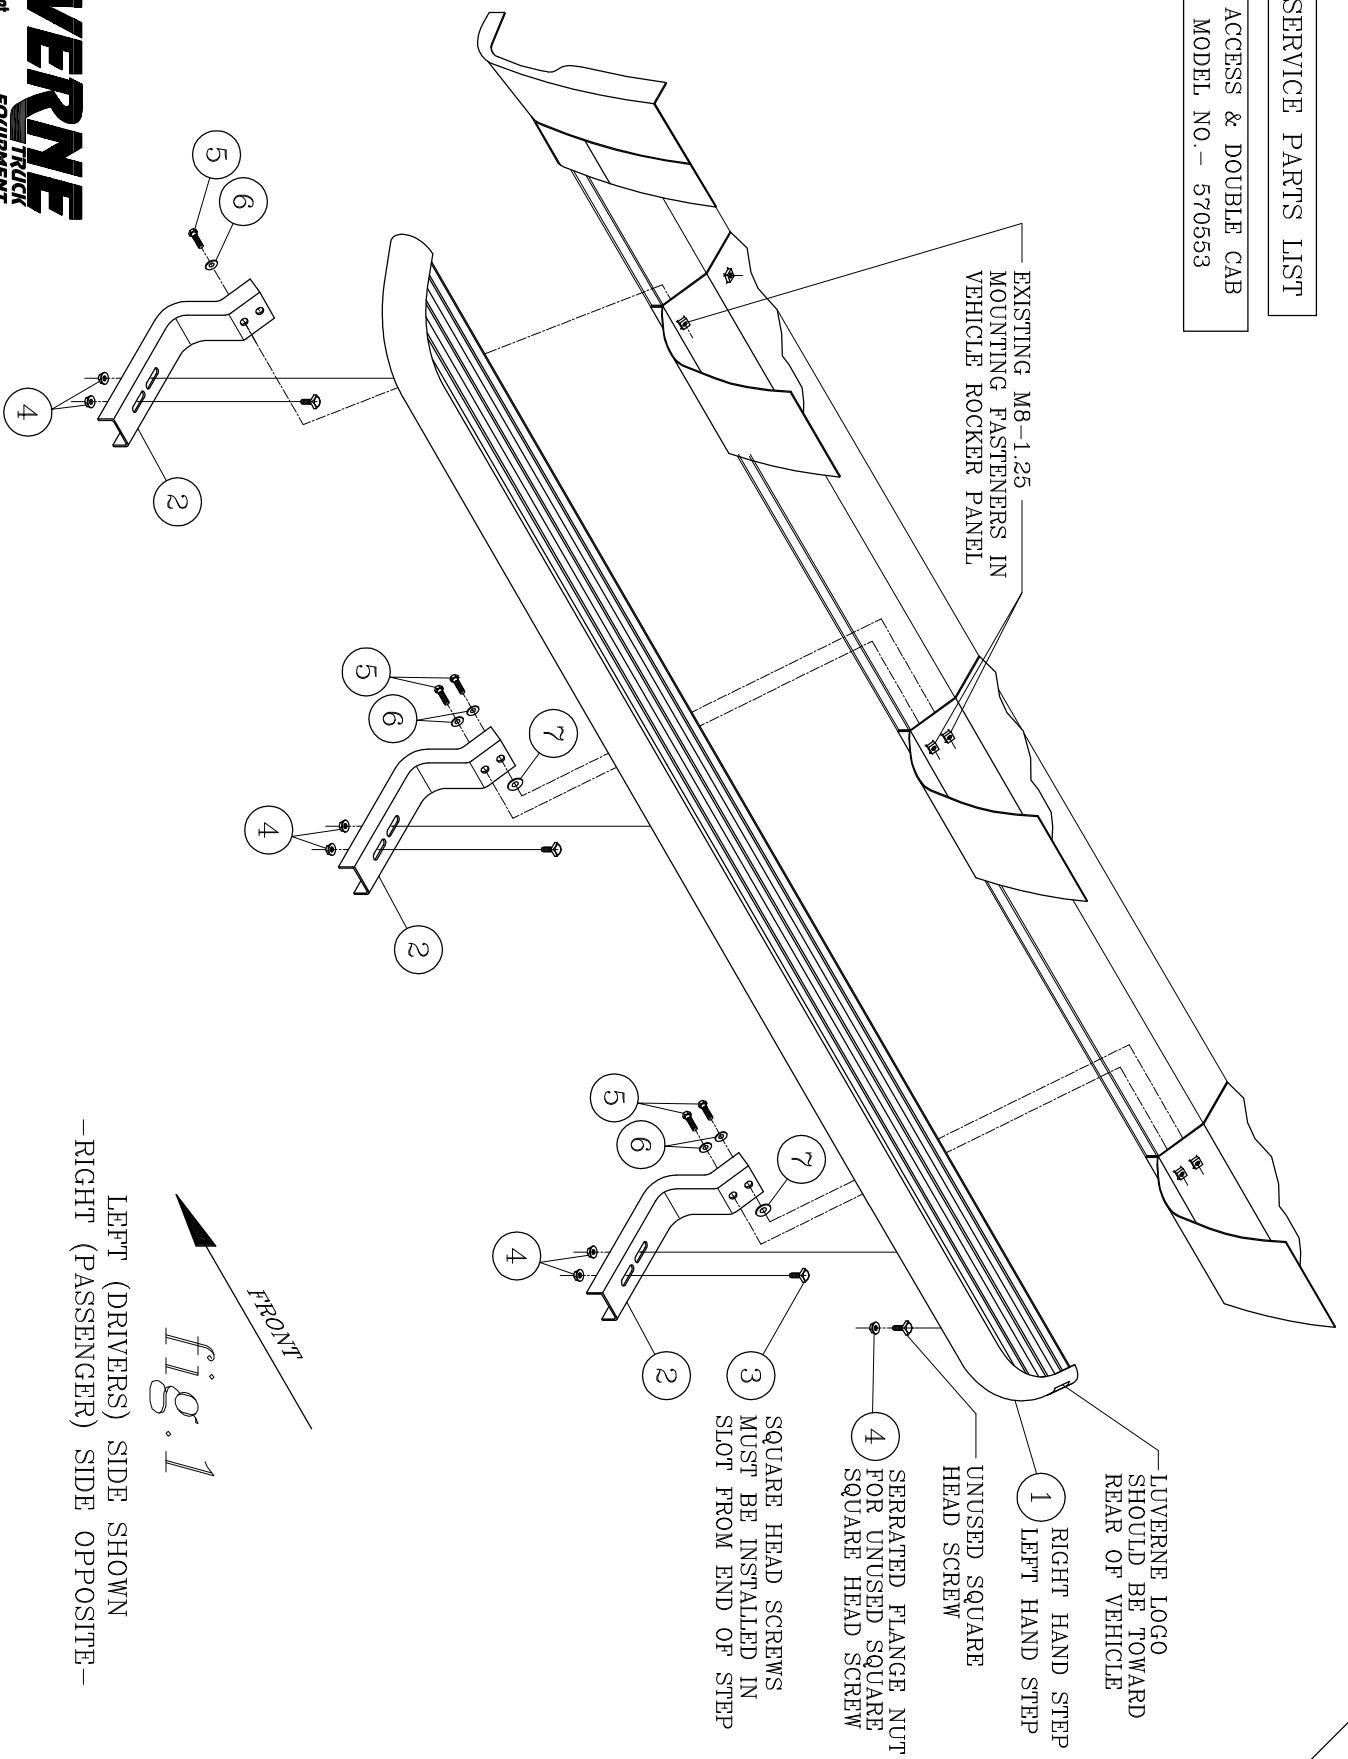

fig. 1
3. BEFORE ATTACHING THE O-MEGA STEPS TO THE BRACKETS, PLACE THE STEP PADS (ITEM #2) ON TOP OF THE STEP PLATES. USE THE TABLE ON SHEET #2, AS A GUIDE TO POSITION THE STEP PAD FOR YOUR PARTICULAR VEHICLE. WHEN INSTALLING THE PADS ON THE STEPS, DRILL (5) 1/8" HOLE USING THE STEP PAD AS A GUIDE. ATTACH WITH (5) 8-18X1/2" TEK SCREWS (ITEM #6) PROVIDED. REPEAT FOR ALL STEP PADS.
5. INSTALL THE END CAPS (ITEM #3) AS SHOWN IN *fig. 1*, TIGHTENING THE NUTS TO 5 LB FT.